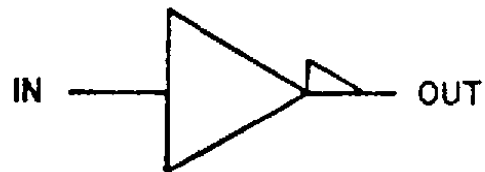

Figure 4-7. Inverting Amplifier Symbol
**4-16.** (See Figure 4-7). Amplifiers, lamp drivers, and level translators are represented by a triangular symbol. Logical 1 signal levels are indicated by the presence or absence of a flag at each input and output.